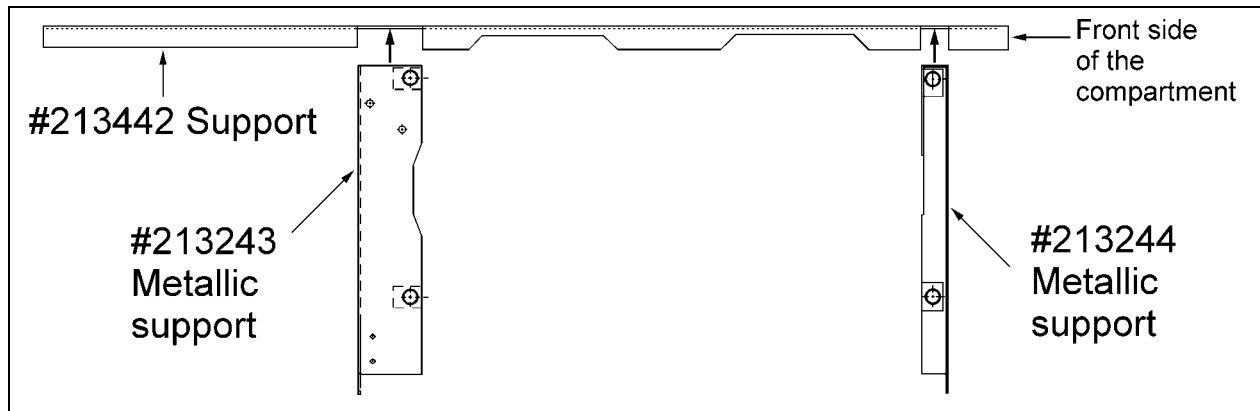

Figure 4: Top view of support assembly.
11. Temporarily install #213442 support (figure 4) underneath the vehicle. This support should lie against the front wall of the condenser compartment. Cut the length excess of the support's rear end. The support might interfere with the compartment floor. Use the support as a template to cut the extra metal of the floor.
15. Install #213243 support underneath the vehicle. This support fits together with #233442 as shown on figure 4. Weld.
16. Install #213244 support underneath the vehicle. This support fits together with #233442 as shown on figure 4. Weld.